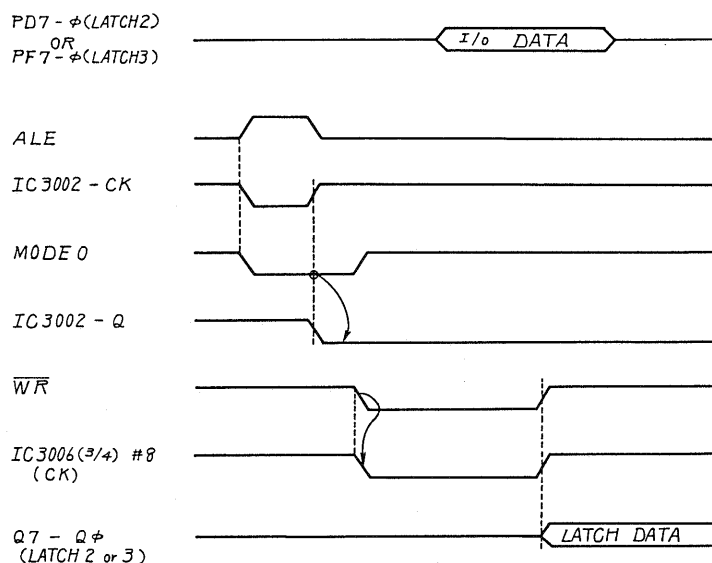

Fig. 5-14
(4) WRITE to I/O (Figs. 5-14 and 5-17)